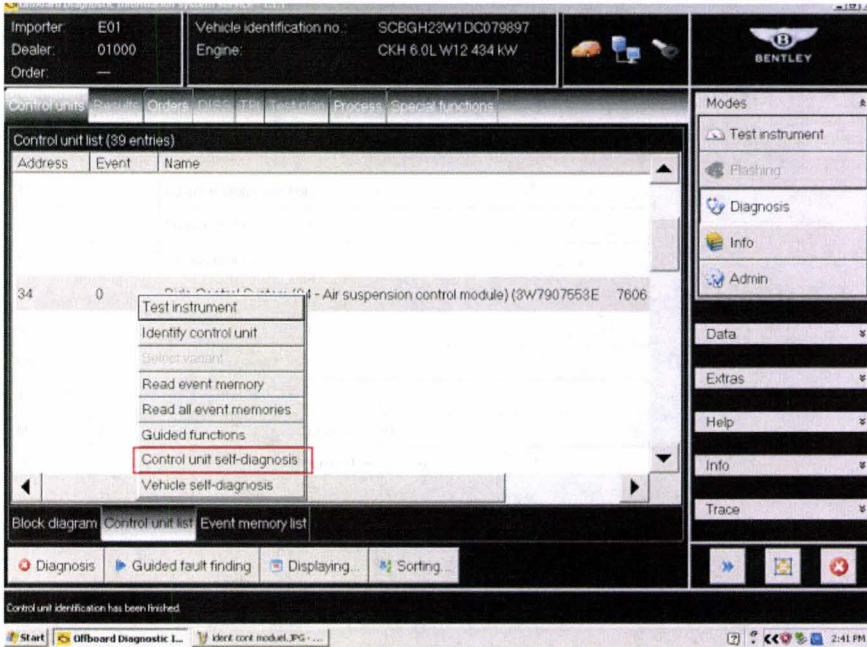

Figure 3
9. Once the control unit is identified then repeat the drop down menu reveal (extended touch and release), and Select *Control unit self-diagnosis* (see Figure 3)
2. Once the control unit is identified then repeat the drop down menu reveal (extended touch and release), and Select *Control unit self-diagnosis* (see Figure 3)